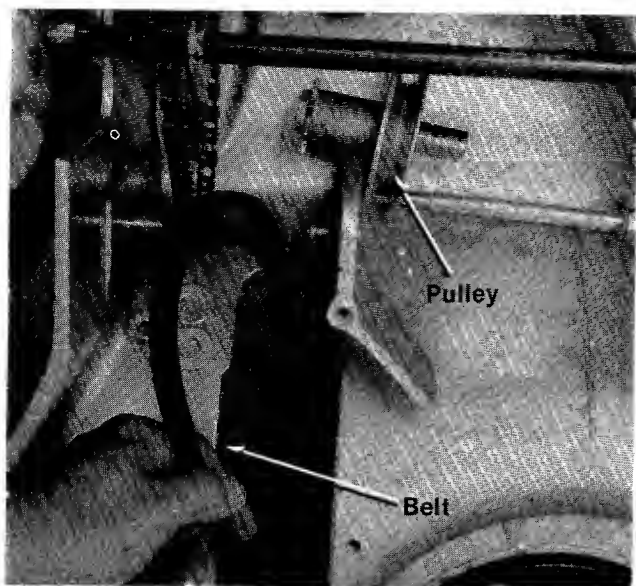

FIGURE 24
7. Remove the belt. (See figure 24.)